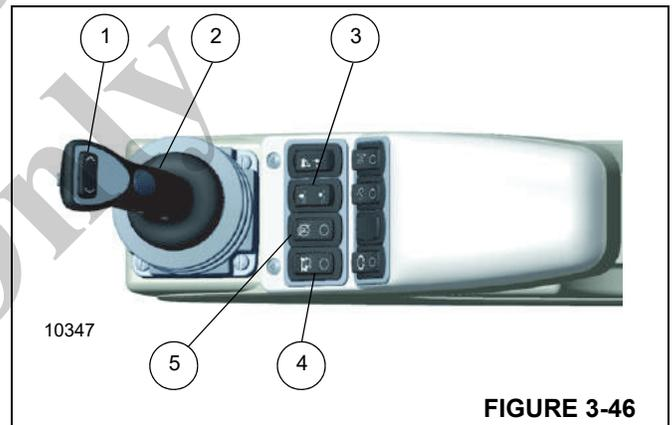

FIGURE 3-46
There are three switches on the lower row of the Left Arm Rest (Figure 3-46) used for Remote Drive Operation: Remote Drive Enable, Park Brake On/Off, and Suspension Inflate/Deflate (from Outside to Inside of arm rest).
**NOTE:** Inflating the Suspension may be done only when traveling with the boom in the rest. For any travel with the boom over the rear, or when lifting loads on rubber, the air bags must be deflated. Use the Inflate/Deflate Switch (Figure 3-46) on the left Armrest to actuate the air bags.
4. Enable the Remote Drive switch on the left armrest (Figure 3-46). An indicator with the Remote Drive symbol will appear on the Operator Display Module (ODM).
3. Disable the Remote Drive switch on the left armrest (Figure 3-46). An indicator with the Remote Drive symbol will disappear on the Operator Display Module (ODM).
Inflating the Suspension may be done only when traveling with the boom in the rest. For any travel with the boom over the rear or when lifting loads on rubber, the air bags must be deflated. See Figure 3-46 for switch locations. To inflate the suspension, hold the Inflate Suspension Switch until fully inflated. To deflate the suspension, push and release the Deflate Suspension Switch.